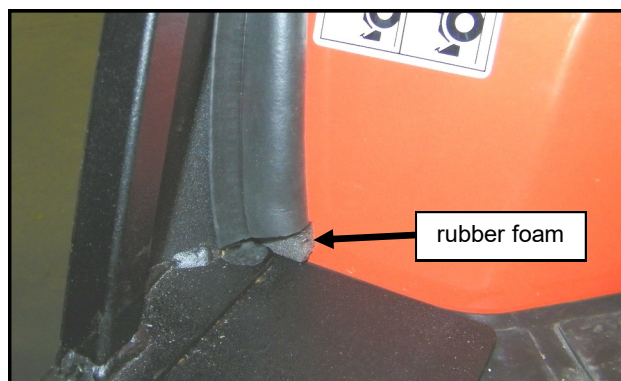

Fig. 21.1 (rubber foam installed on right fender)
**21.1** Cut the supplied 6" long strip of rubber foam in half. Place (1) piece of the rubber foam between the 1" Round Bulb and floorboard per fig. 21.1, on both the left and right fenders and trim in place.